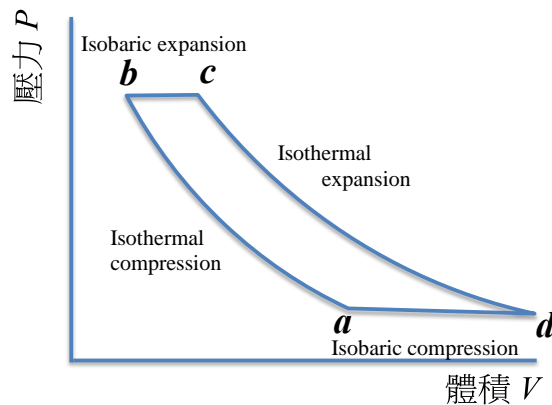
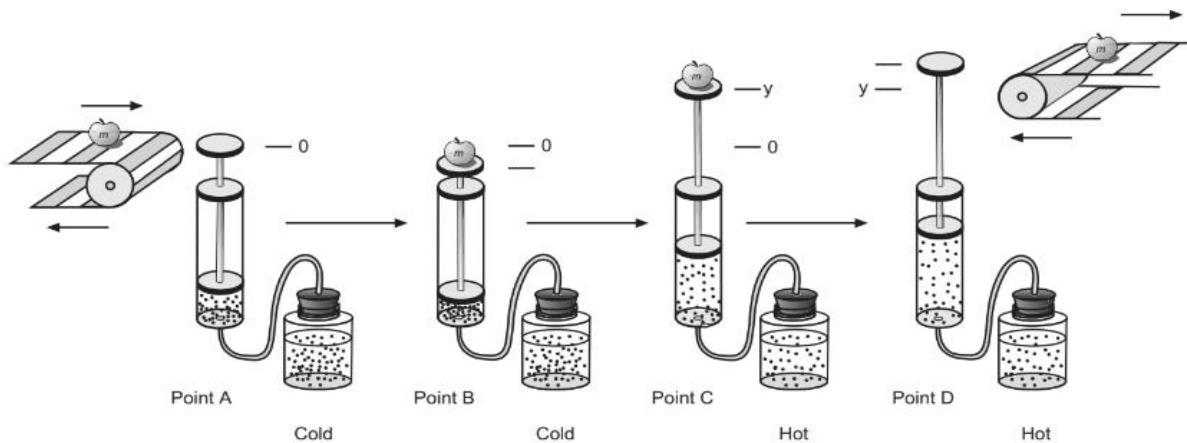

Figure 6. Schematic of the ideal thermal cycle curve.
Figure 7. Schematics of experimental setup and operation steps for the thermal cycle.
By a real heat engine to verify the thermal cycle curve (isothermal, isobaric, expansion, and compression). The ideal thermal cycle curve is plotted in figure 6. The actual operation steps is shown in figure 7. A thermometer is required to attach the wall of can to monitor the temperature of gas inside the can. Tie the thermometer on the can wall with a rubber band.
2. Calculating work with actual PV curve (Figure 7 is the experimental steps for the cycle)